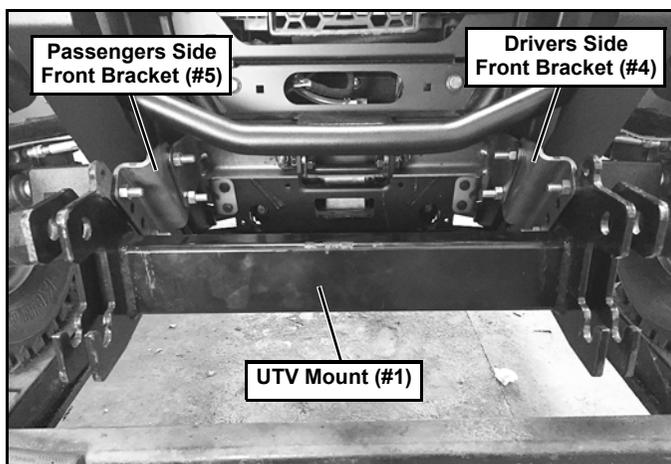

Figure 8
14. Position the UTV Mount (#1) on the machine. The UTV Mount (#1) goes to the outside of the Driver and Passenger Side Top Brackets (#4 & #5). (See Figure 8.)